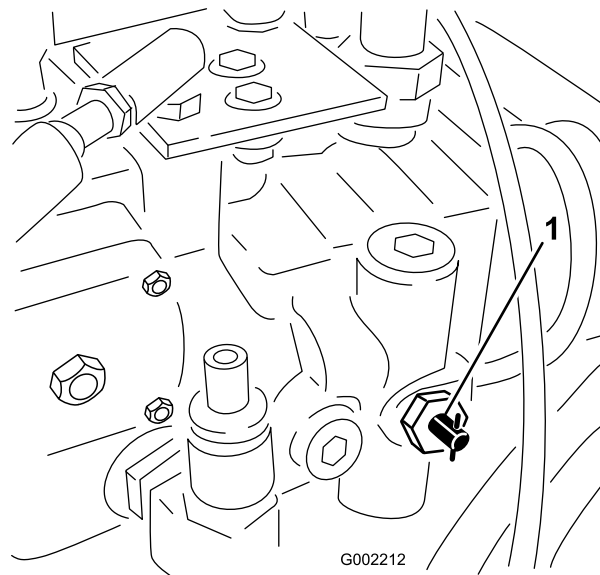

Figure 53
1. Rotate the tow valve (Figure 53) 90° in either direction to open the tow valve.